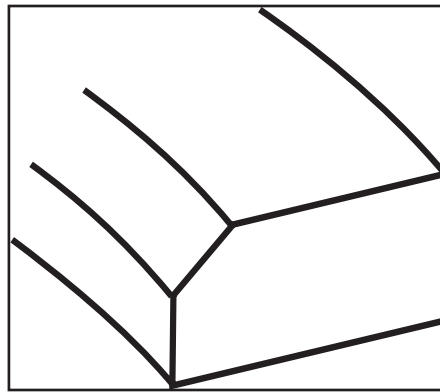

Figure 2
- vii. If ring has no dot but does have inside diameter bevel, bevel goes to top of piston. **See Figure 2** above.